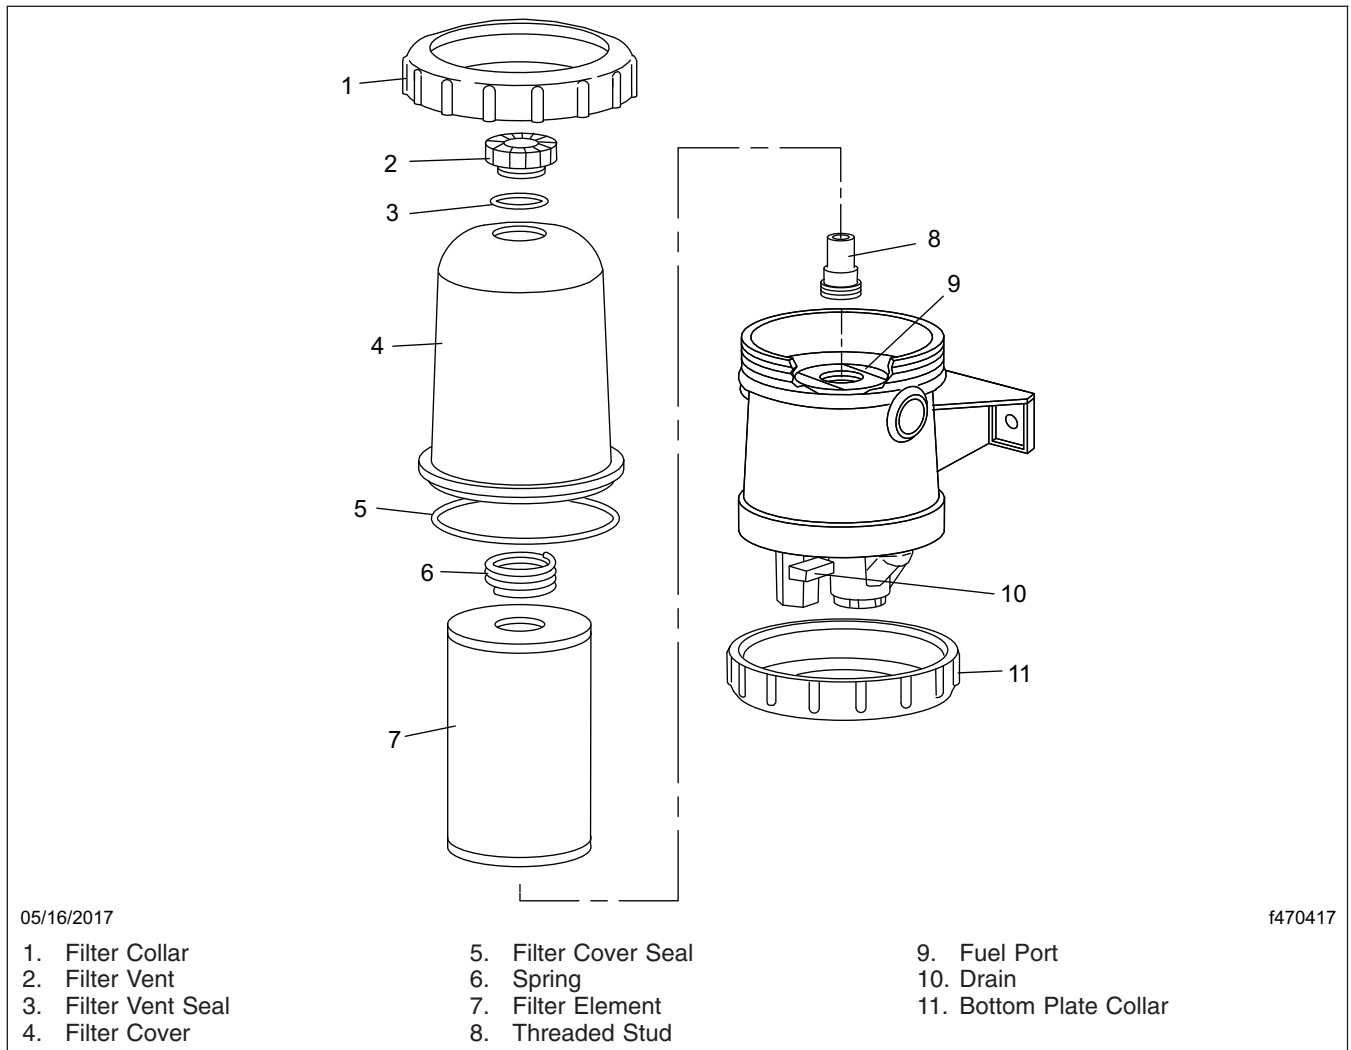

Fig. 23.2, Davco Model 382 Fuel/Water Separator
1. Drain the fuel into a suitable container until it is below the level of the filter collar. See Fig. 23.2 for the model 382 fuel/water separator.